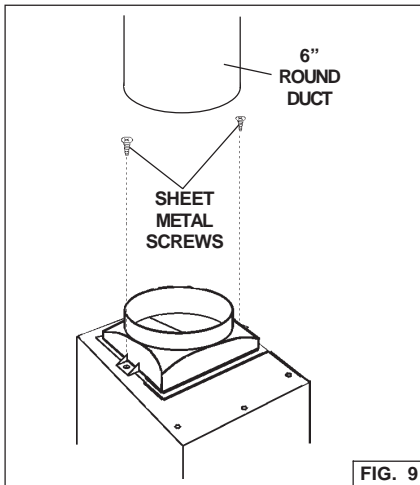

FIG. 9
1. Fasten the discharge collar to the blower support with (2) sheet metal screws. Be sure the collar does not extend beyond the blower support edge. Fig. 9.
2. Install 6" round metal duct, long enough to reach ducting in ceiling. Duct tape all connections, making them secure and air tight. Fig. 9.